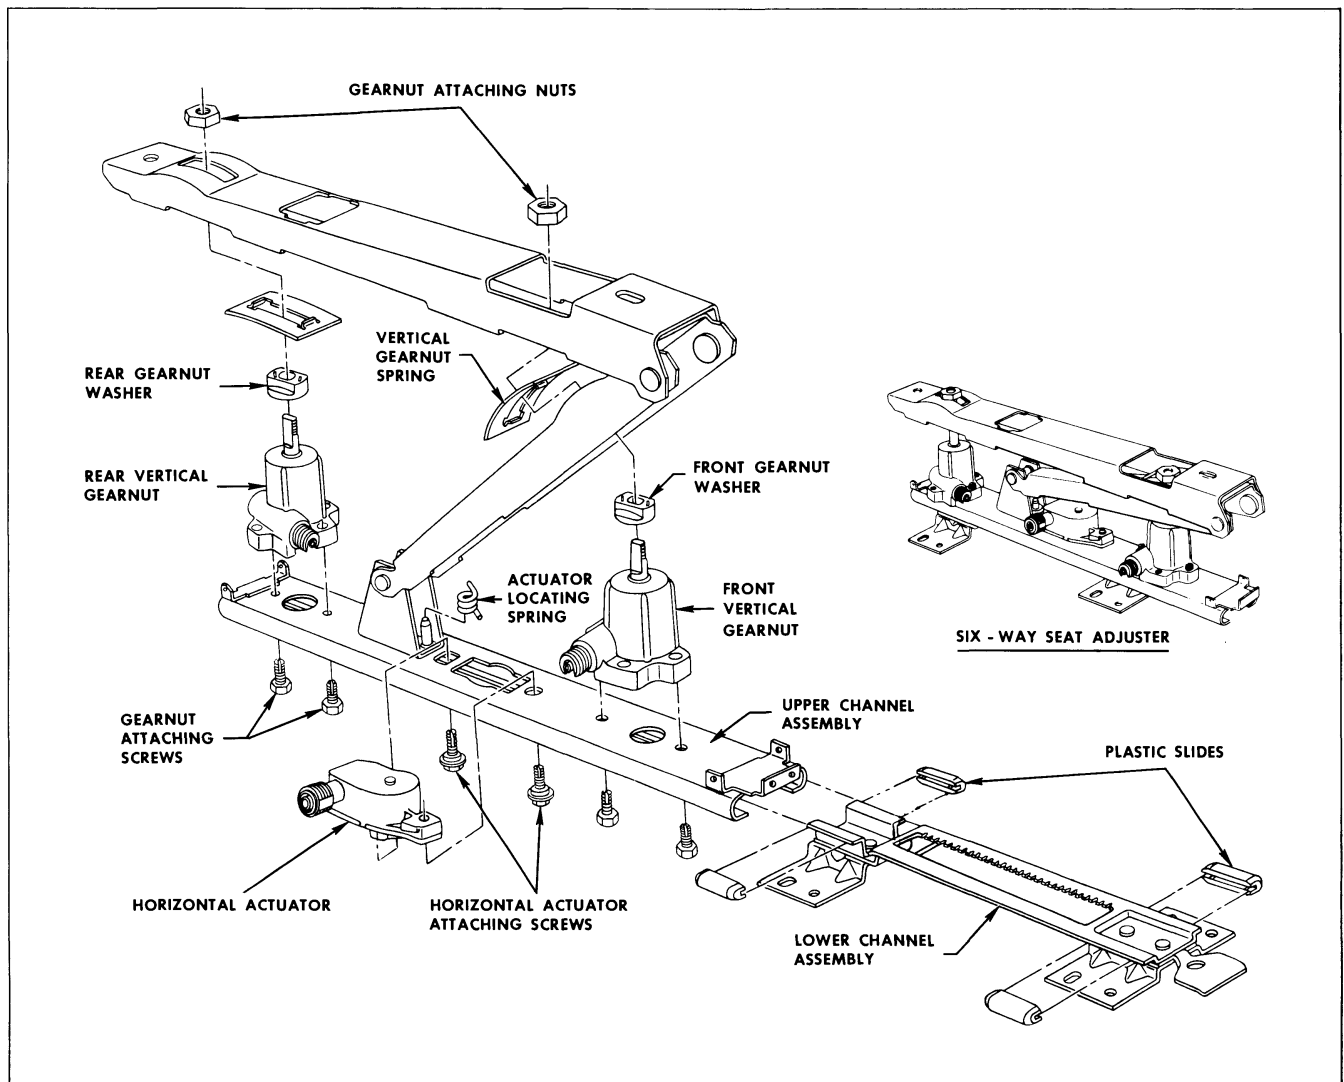

Fig. 8-8 Six-Way Seat Adjuster Parts
Figure 8-8 identifies the component parts of the six-way seat adjuster. The following service procedures cover replacement of major parts of adjuster.
4. Remove front vertical gearnut spring (Fig. 8-8).
*IMPORTANT: The horizontal actuator is under tension from spring shown in Figure 8-8. When installing actuator, be sure actuator locating spring is properly engaged with actuator.*
3. If lower channel is being replaced with a new part, transfer plastic slides to new part (Fig. 8-8).
5. Remove gearnut spring (Fig. 8-8).
6. Lay adjuster on its side and remove gearnut attaching screws (Fig. 8-8) at under side of lower channel, then remove gearnut from adjuster.
5. Transfer front and rear gearnuts to new upper channel (Fig. 8-8).